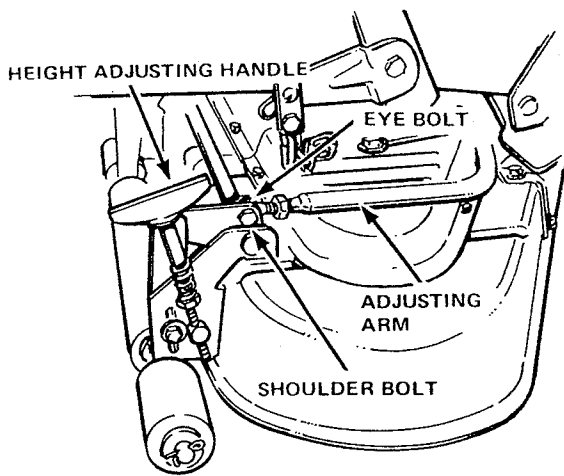

FIGURE 7
2. Use the height adjusting handle to obtain a height of two inches at point B. Then rotate all blades so that the tips just measured point to the front. (See Figure 7).